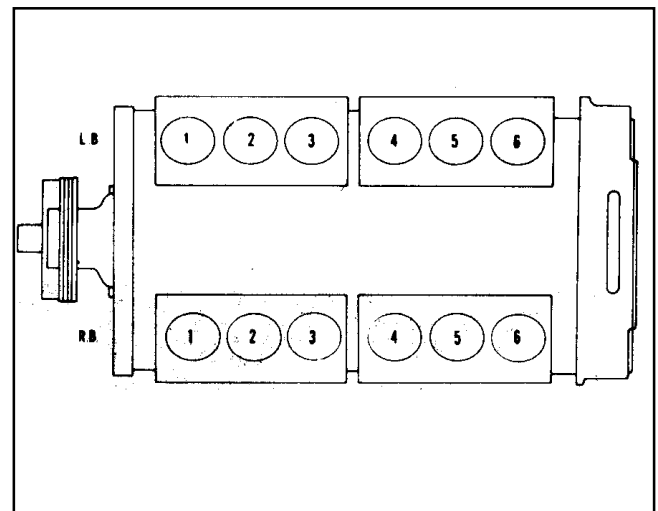

Fig. 7-7. V-1710 Piston position
6. For the firing order see Table 7-5 for Inline Engines and Table 7-6 and Fig. 7-7 for V-1710 Engines.